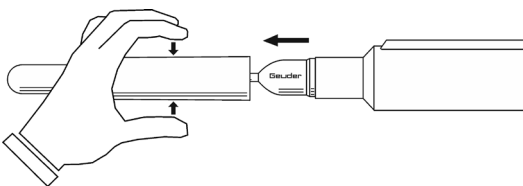

Fig. 2
- Remove the test anterior chamber according to fig. 2.
- If needed, remove the test anterior chamber according to fig. 2: